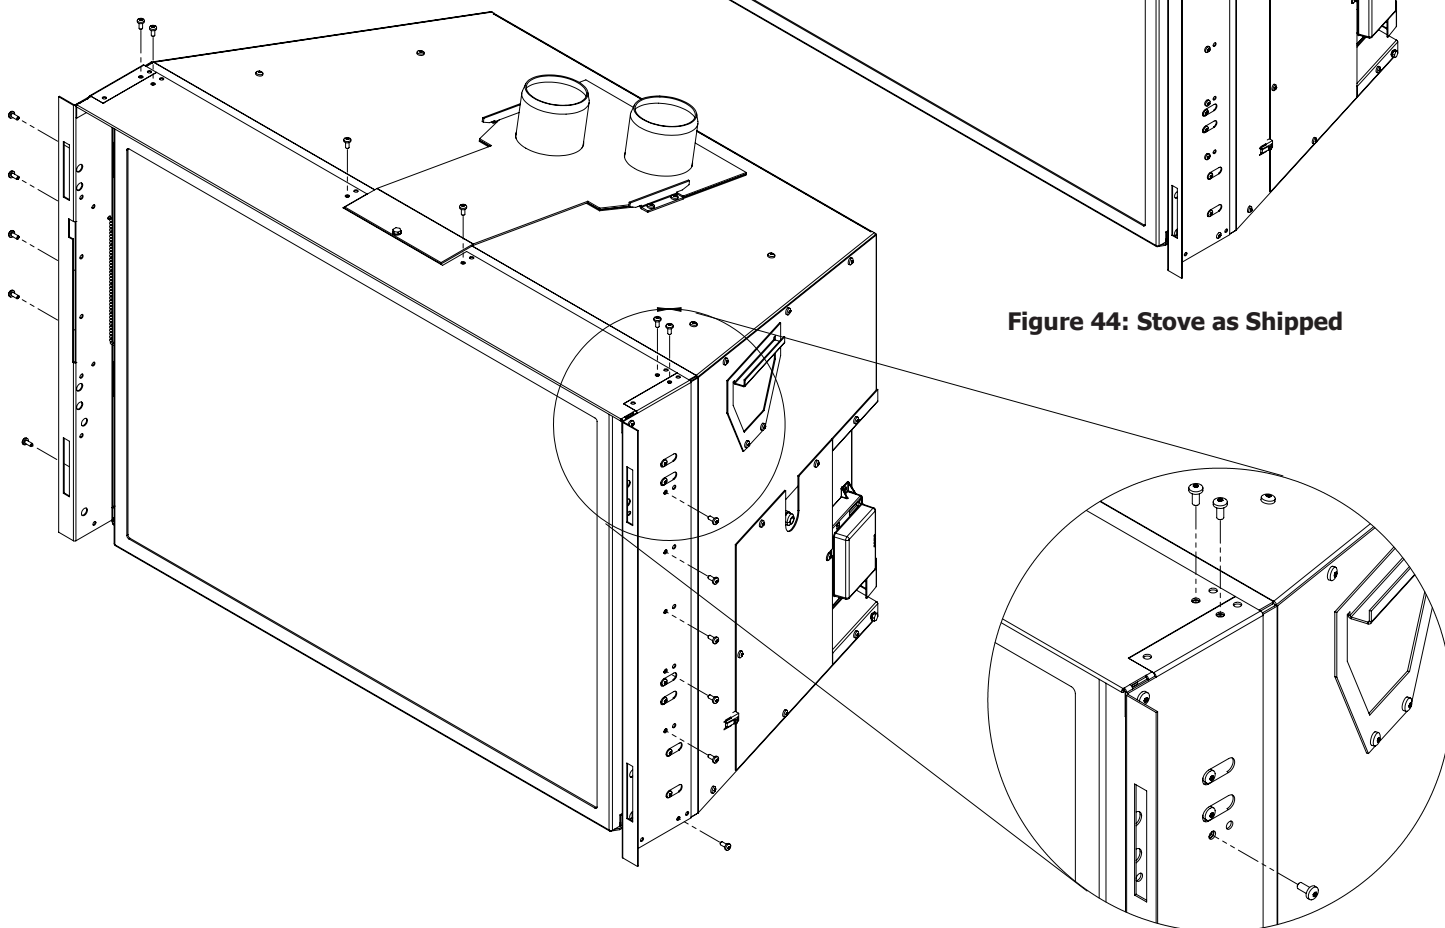

Figure 45: Extension Position for Keystone Surround Panel
1. Using a T20 screwdriver, remove the four (4) screws that secure the Top Extension to the Cabinet (see Figure 45).
2. Remove the six (6) screws on each Side Extension (see Figure 45).